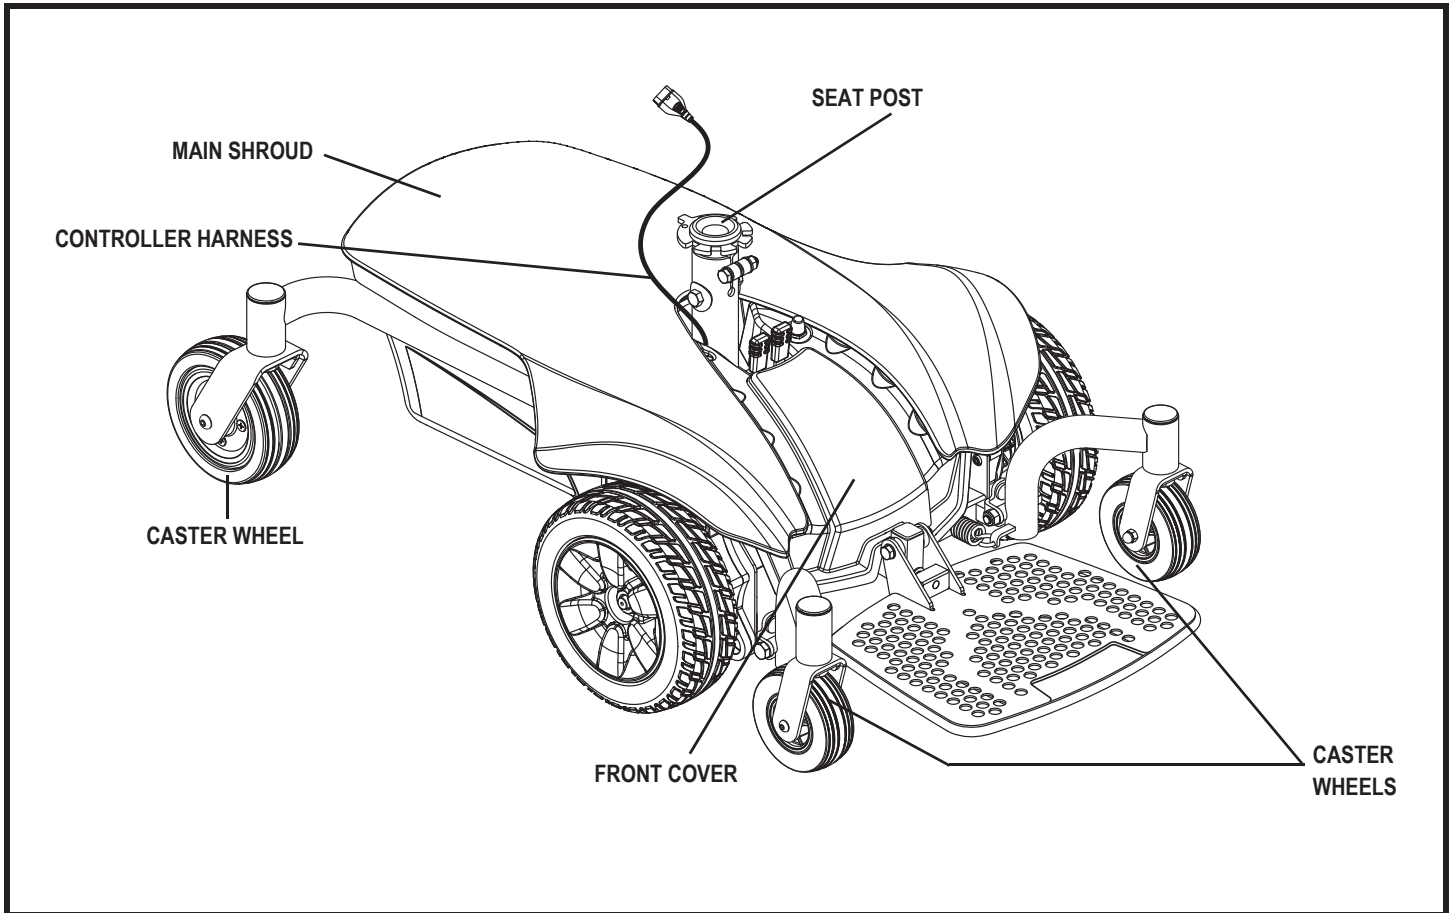

Figure 6. The Jazzy Freedom Power Base
5. Plug the controller harness into the connector on the power base. See figure 6.